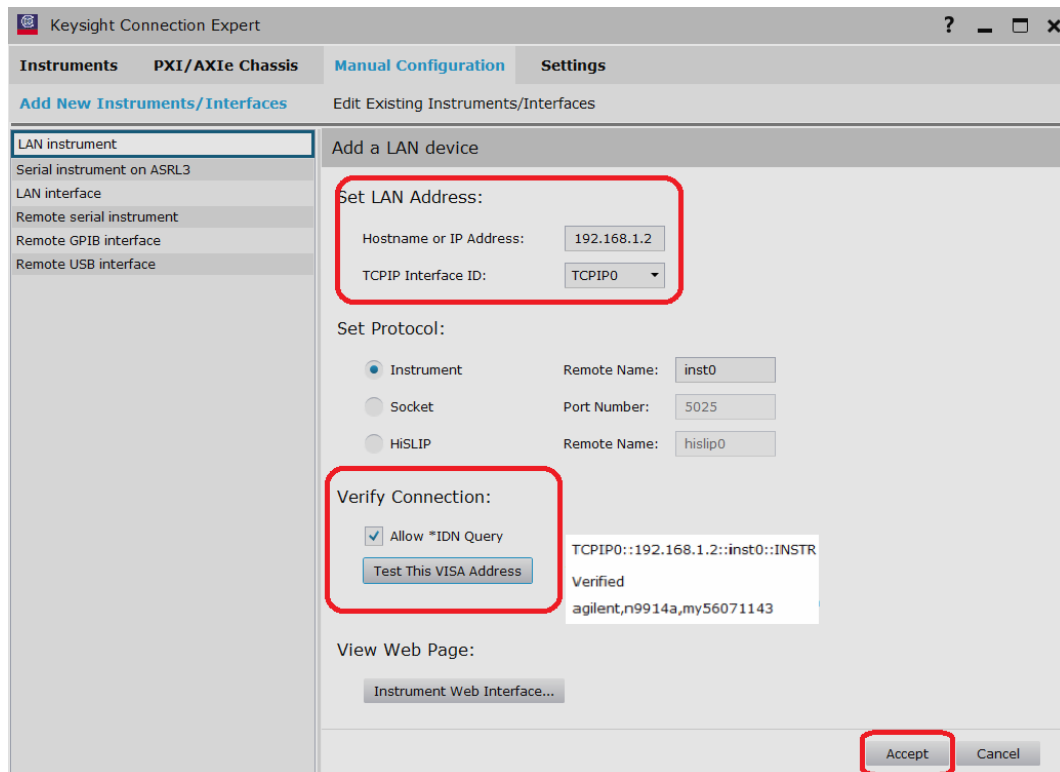

Figure 7.. Hostname or IP Address
- 2) As shown in Figure 7, fill in **Hostname or IP Address** and click **Test This VISA Address**